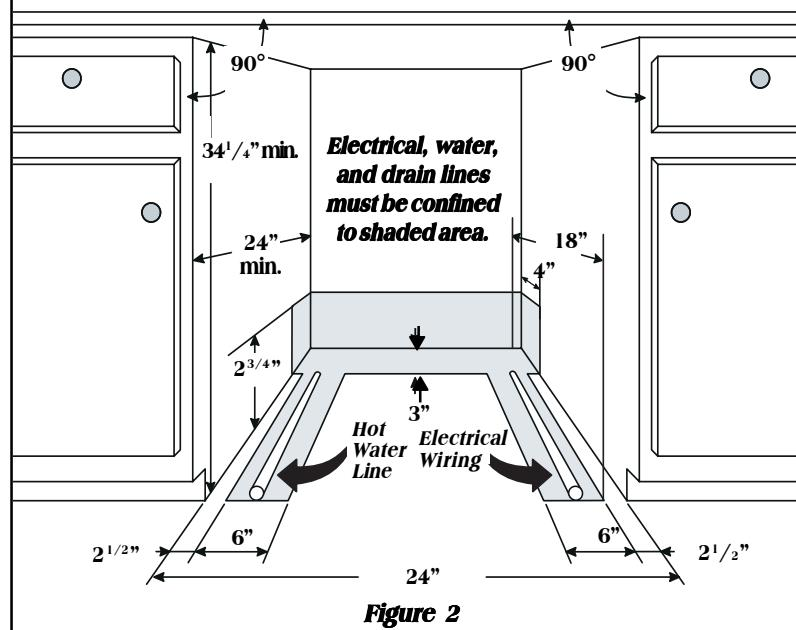

Figure 2
IMPORTANT: For proper operation and appearance of unit, cabinet opening should have dimensions as shown in Figure 2. If unit is to be placed in a corner, there must be at least a 2-inch side clearance to open door.
Electrical, water, and drain lines must be confined to shaded areas in Figure 2. Electric conductors, water, and drain could be damaged.
2. All connections must be made in shaded area in Figure 2.
3. Cut access hole in shaded area shown in Figure 2.
4. Cut water access hole in shaded area in Figure 2.